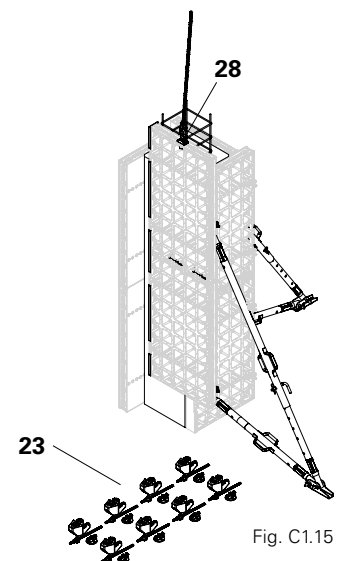

Fig. C1.15
1. Attach the crane hook to the DUO crane eye (28) in the panel element without push-pull props. (Fig. C1.15)